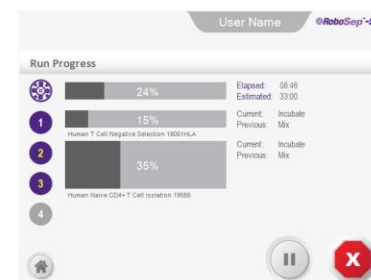

Figure 21. Loading the Carousel and Running a Protocol
Note: The Carousel Loading screen will indicate the reagent volumes required for the separation based on the sample volume assigned (Figure 21).
5. Optional: Scan barcodes to record reagent-specific information such as catalog and lot numbers (section 4.3.4). Select  [Barcode scanner] on the Carousel Loading screen (Figure 21) to scan desired barcodes for resources loaded in each quadrant. Once all scanning is finished, select  [Save] to save the information. Resource-specific information will be recorded in the end-of run reports for each protocol (section 5.1).
6. Select  [Run] on the Carousel Loading screen to start the protocol. A Run Progress screen will appear after approximately one minute (Figure 21).
By default, all barcodes will be scanned. If you do not want to scan all barcodes at once during each run, edit the user profile preferences and deselect the “Enable autoscanning of barcodes” option (section 4.1.3). Then select  [Barcode scanner] on the Carousel Loading screen (Figure 21) to scan desired barcodes for resources loaded in each quadrant. Once all scanning is finished, select  [Save] to save the information. Refer to Table 3 for the various messages that may appear on the screen after barcode scanning.